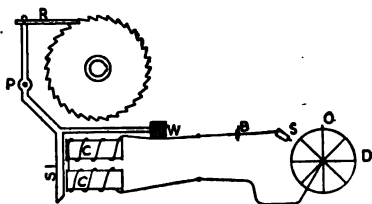

FIGURE 168. — WIRING DIAGRAM OF ELECTRIC CLOCK.
accomplished by the so-called electric clock. (Figure 168.)
For sending the current through the coils an electric circuit is made through the master-clock. The master-clock runs a drum (D , Figure 168) on which is a peg (O). The peg touches the point S every minute, thus making a complete circuit through the battery and electric clock.